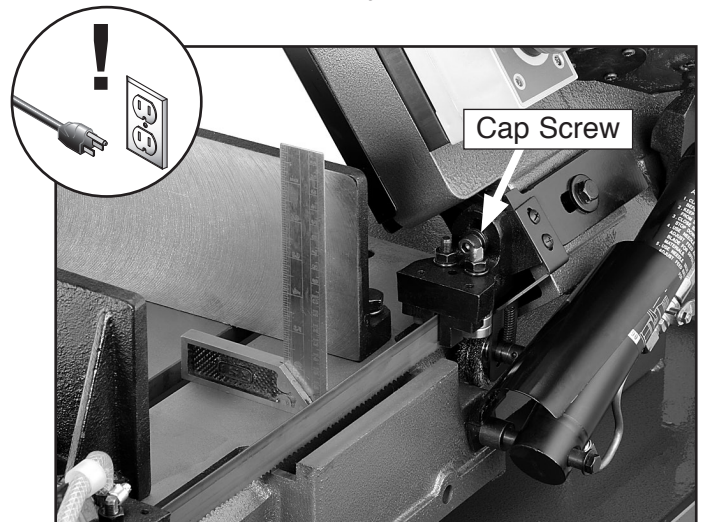

Figure 38. Squaring the blade.
3. Place a square on the table bed and against the edge of the blade (**Figure 38**), and check different points along the length of the table between the blade guides.
4. Loosen the cap screw shown in **Figure 38**, and rotate the blade guide until the blade is vertical to the bed, then tighten the cap screws.